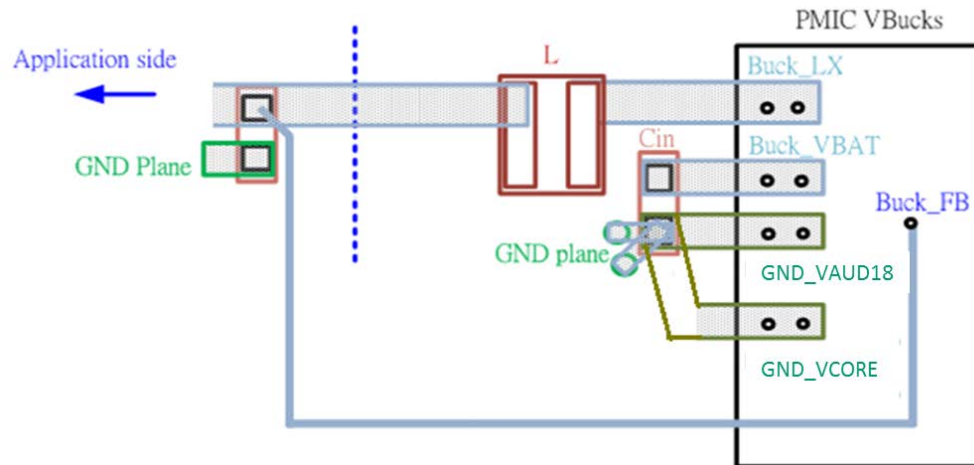

Figure 8. Buck layout guide
- Make the buck inductor trace loop as short as possible, Figure 8 L
- BUCK input cap GND must star connect with GND_BUCK as shown in Figure 8.